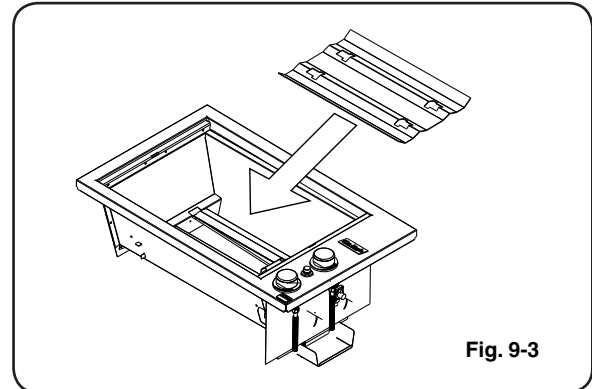

Fig. 9-3
- a. Place the flavor grid directly on the burners. Make sure the legs (on the underside) of the grid rests on the burners (Fig. 9-3), centering the grid over the burners with the open side up. This allows heat from the burners to be evenly distributed throughout the cooking area. The flavor grid heats and cools quickly, making the Fire Magic barbecue very responsive to the changes you specify in grill temperature.